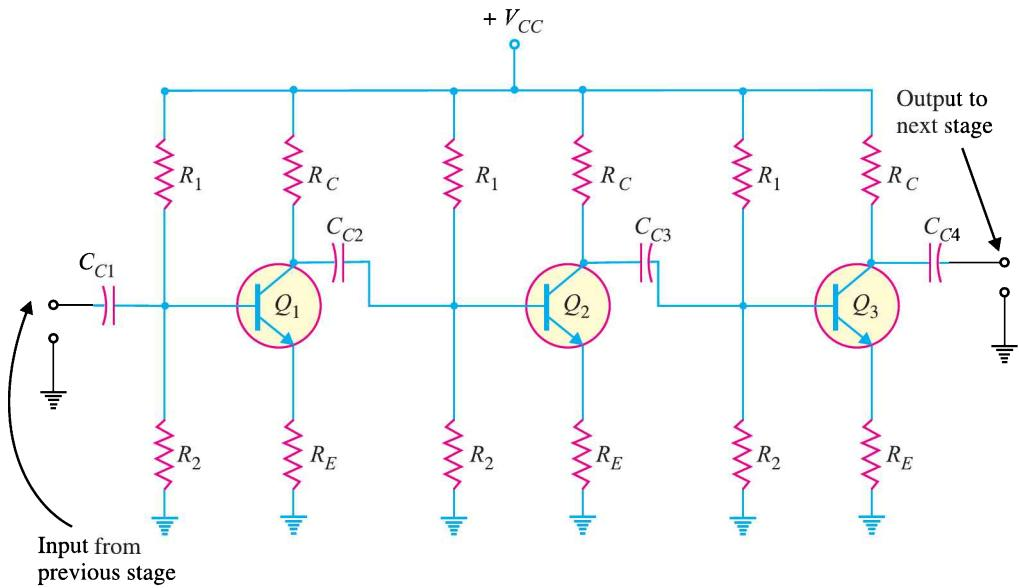

Fig. 11.2
1. **As coupling capacitors.** In most applications, you will not see a single transistor amplifier. Rather we use a multistage amplifier i.e. a number of transistor amplifiers are connected in series or cascaded. The capacitors are commonly used to connect one amplifier stage to another. When a capacitor is used for this purpose, it is called a *coupling capacitor*. Fig. 11.2 shows the coupling capacitors (C_{C1} ; C_{C2} ; C_{C3} and C_{C4}) in a multistage amplifier. A coupling capacitor performs the following two functions :